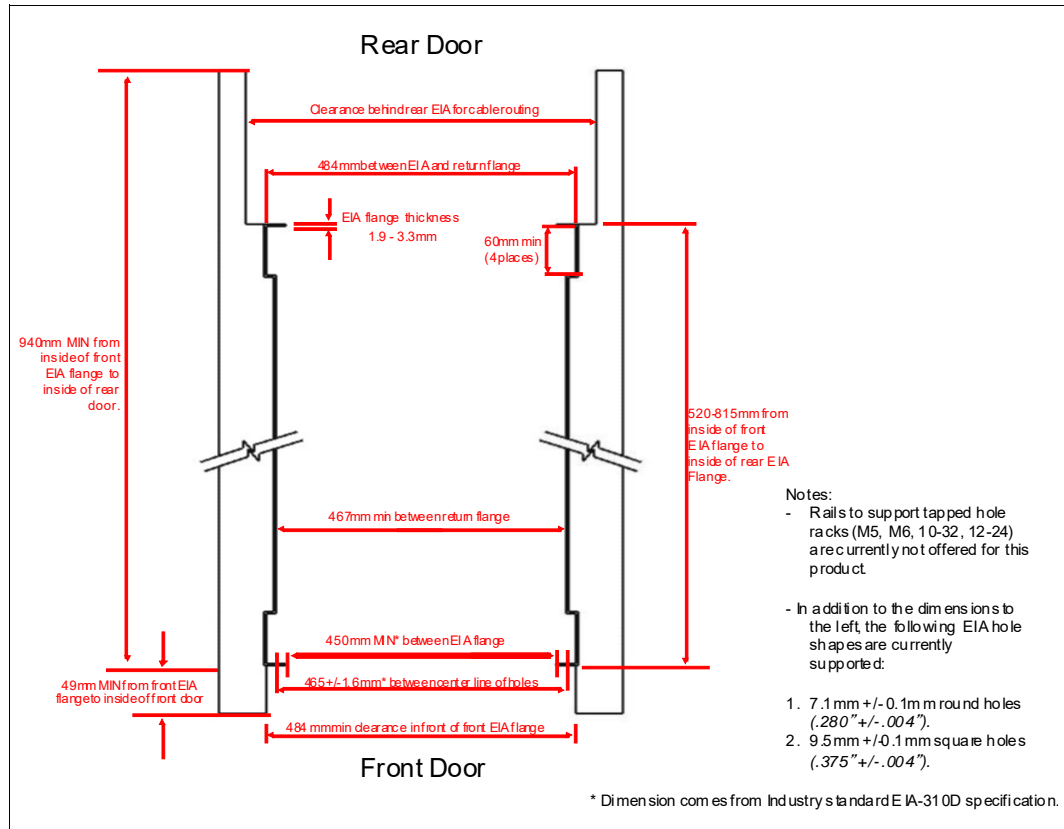

Figure 1-9 Top view of rack specification dimensions (not specific to IBM)
- ▶ The front rack opening must be 451 mm wide ± 0.75 mm (17.75 in. ± 0.03 in.), and the rail-mounting holes must be 465 mm ± 0.8 mm (18.3 in. ± 0.03 in.) apart on-center (horizontal width between the vertical columns of holes on the two front-mounting flanges and on the two rear-mounting flanges). Figure 1-9 is a top view showing the specification dimensions.